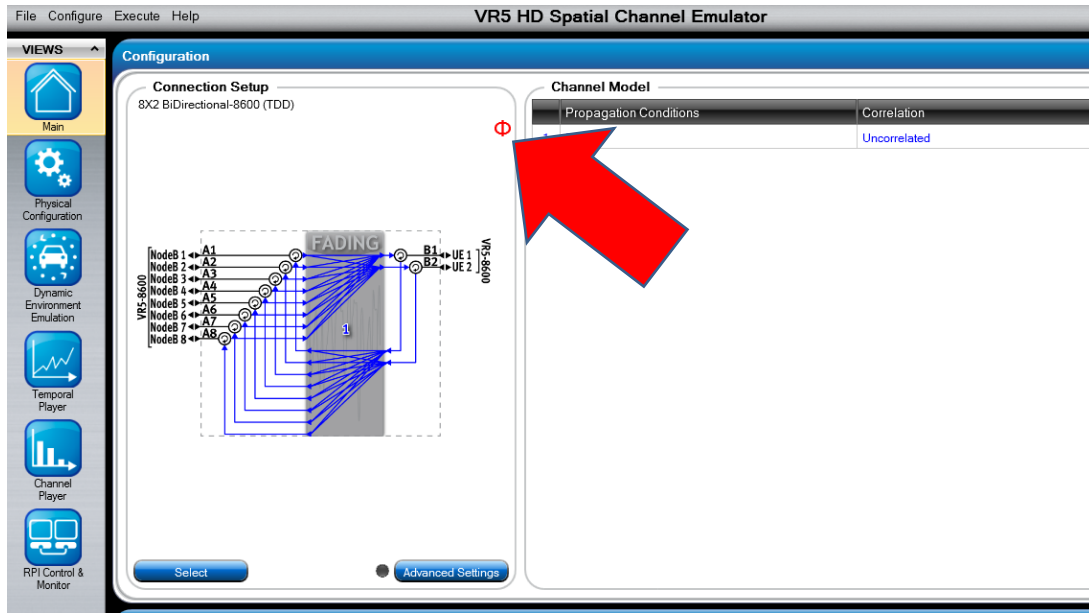

Figure 4-18: Red Φ Indicator Location (Automatic Calibration Required)
1. Select **Execute>Phase Calibration>Single Calibration**, as shown in Figure 4-18.